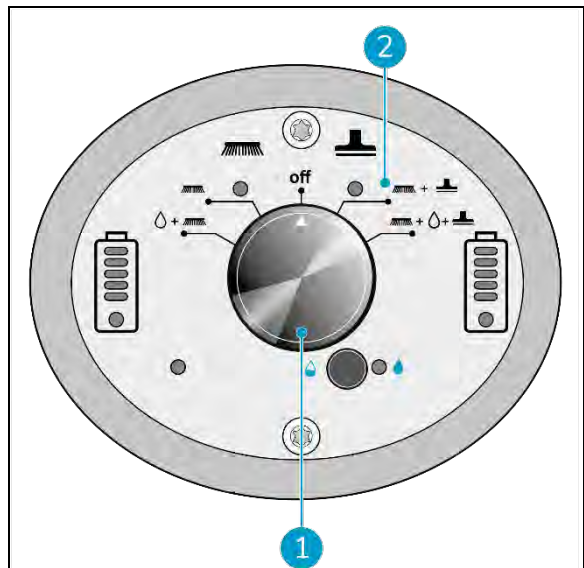

Figure 27
1. Use the i-mop XL Pro main switch (Figure 27, pos. 1) and choose MODE 3 Brush + Dry vacuum (Figure 27, pos. 2).